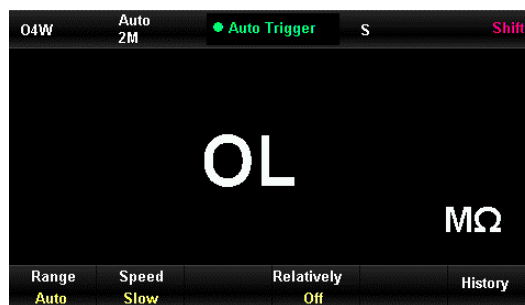

Figure 2-15 Interface of 4-wire resistance measurement
- 1) Press **Shift** button, and then press **Q2W** button to enter interface of 4-wire resistance measurement, as Figure 2-15.